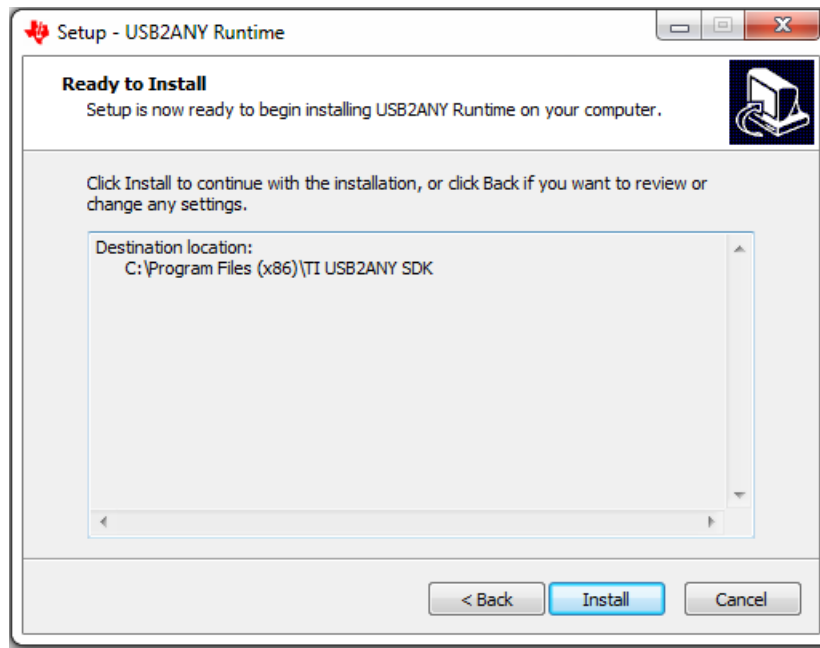

Figure 25. USB2ANY Start Installation
12. The screen shown in Figure 25 appears. Click the *Install* button to begin the USB2ANY installation.